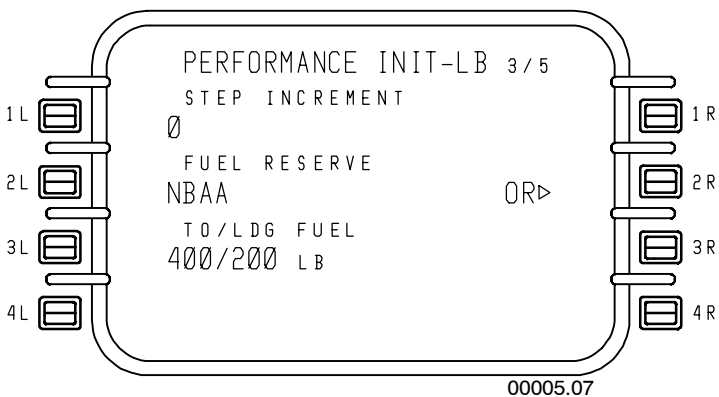

Figure 5-17
- **PERFORMANCE INIT 3/5** – Figure 5-17 is used to review and/or select a step increment for predicted step climbs. It is also the method used for fuel reserve calculations as well as takeoff and landing fuel allowances. The page is available only in the FULL PERF mode.